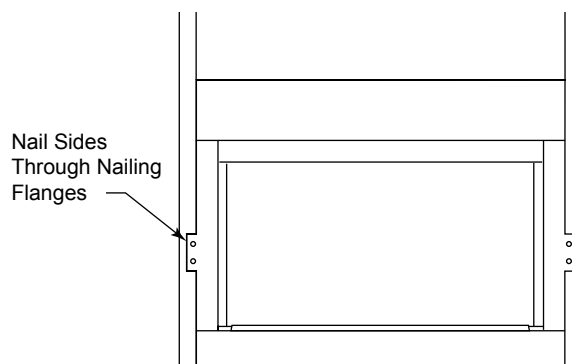

Figure 9a. Nailing Flanges
4. Anchor firebox to the side framing members using 8d nails or other suitable fasteners. Figure 9a